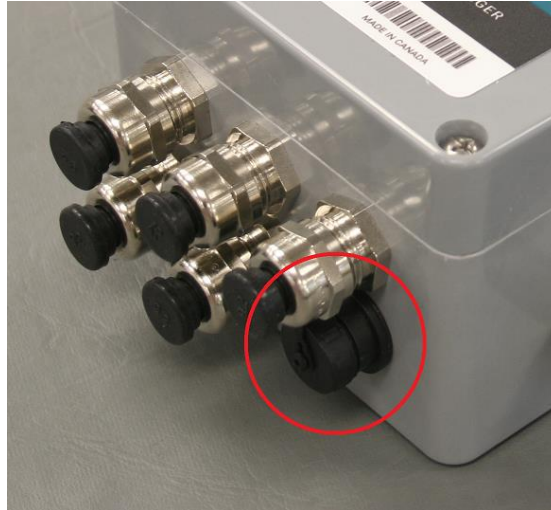

FIGURE 3-8 MINI-B USB PORT
- 11 Unscrew the cover of the mini-B USB port. Refer to Figure 3-8.